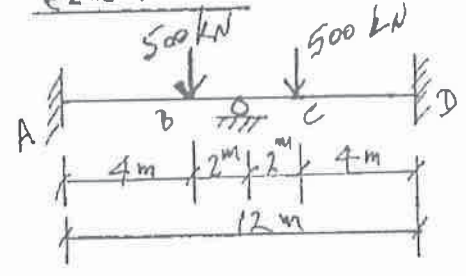

FIGURE 2
3. Figure 2 shows a loaded plate girder with fixed supports at A and D. Design a cross-section to satisfy flexure and shear, as well as their interaction.